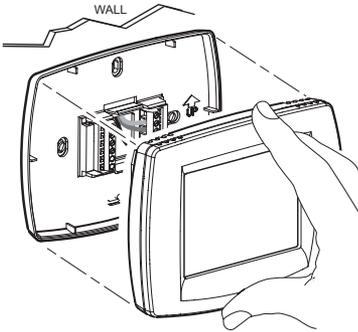

Fig. 4. Comfort Control
1. Loosen the terminal screws on the sub-base. Insert wires into the terminal block next to the loosened screw. See Figure 4.
2. Push the Comfort Control straight onto the wall-plate. See Figure 4.